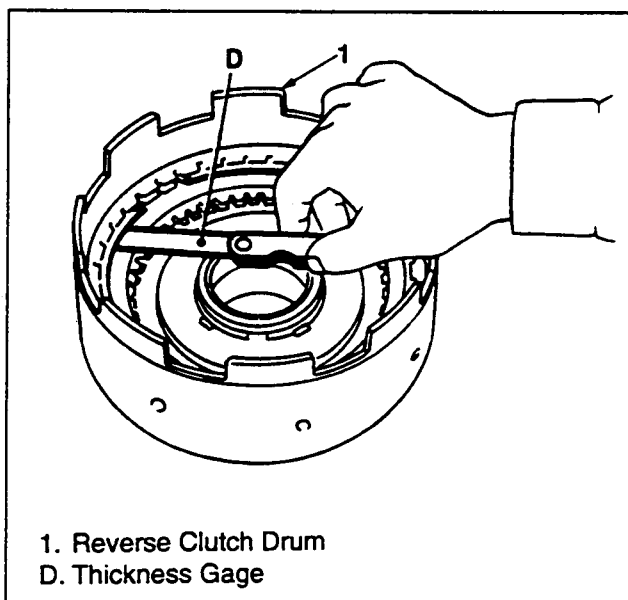

Figure 128. Clearance Check
5. After operation check, measure the clearance from the retaining plate to the snap ring using a thickness gage. (figure 128)